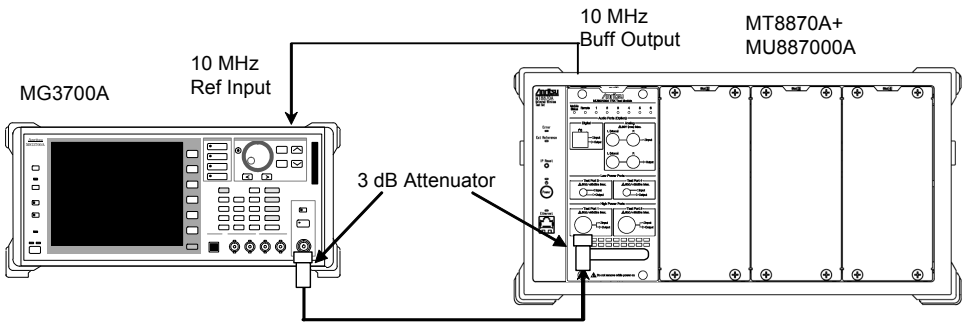

Figure 6.3.7-1 Setup for Measuring Frequency/Modulation
1. Setup the instruments as shown in Figure 6.3.7-1.